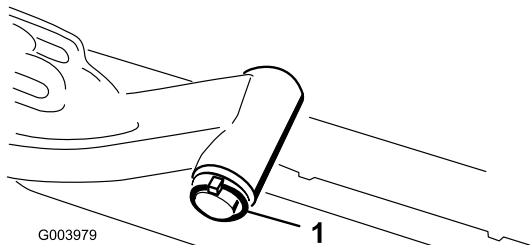

Figure 9
- A. Remove the lynch pin and washer securing the lift arm pivot shaft to the lift arm and slide the lift arm pivot shaft out of the lift arm (Figure 9).
- C. Insert the lift arm shaft into the lift arm and secure it with the washer and lynch pin (Figure 9).